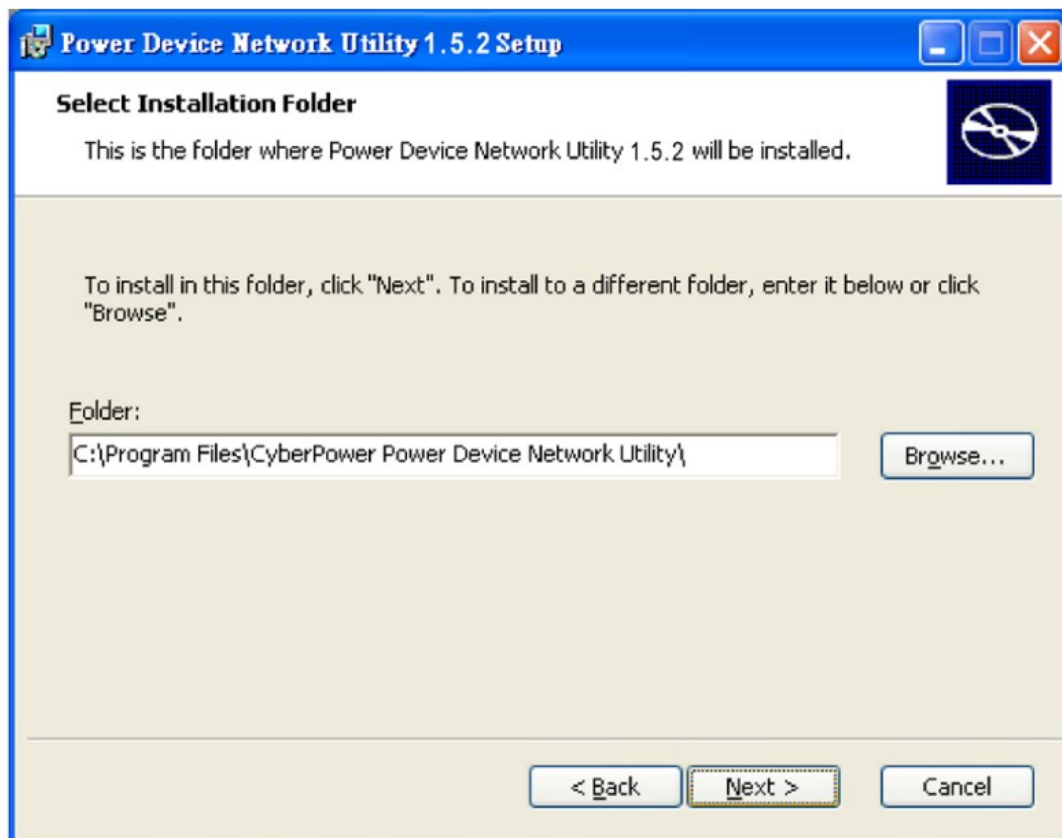

Figure 2
Step 3. Choose an installation directory. Select Next (Shown in Figure 2).